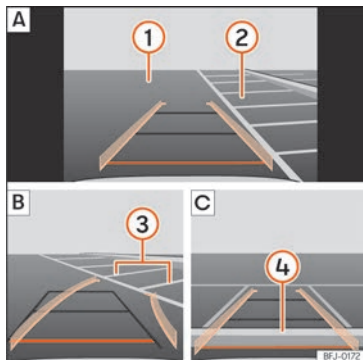

Fig. 218 Display on the Infotainment system screen.: parking with reverse assist.
Key to the **Fig. 218**:
- Place the vehicle in front of the parking space **»» Fig. 218 2 A**.